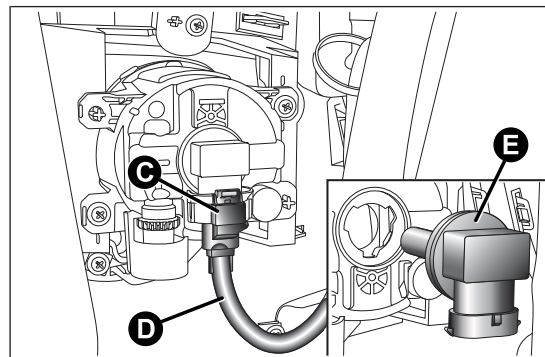

fig. 131
- ☐ adjust the catch C fig. 131 and disconnect the electrical connector D;